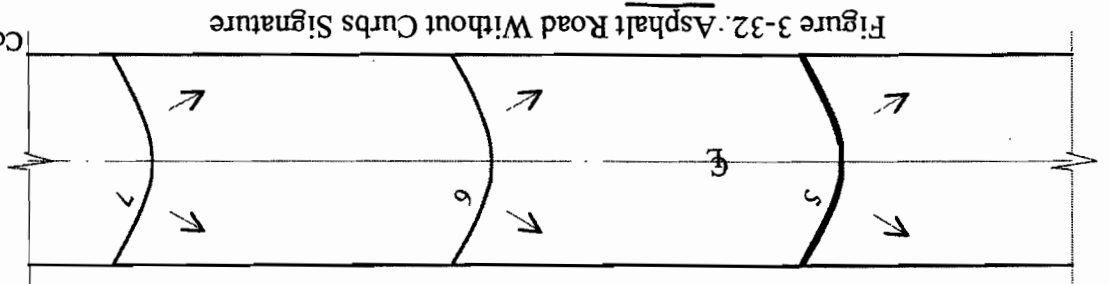

Figure 3-32: Asphalt Road Without Curbs Signature
Figure 3-32 shows an asphalt concrete (AC) road with crown, but without curbs, sidewalks or any special shoulder treatment. Note the curvilinear shape of contour lines on road. This is a characteristic of asphalt. If AC is called out on the road or in the instructions, the contour lines must be curvilinear. In this example, run-off flows off the road at its edges.